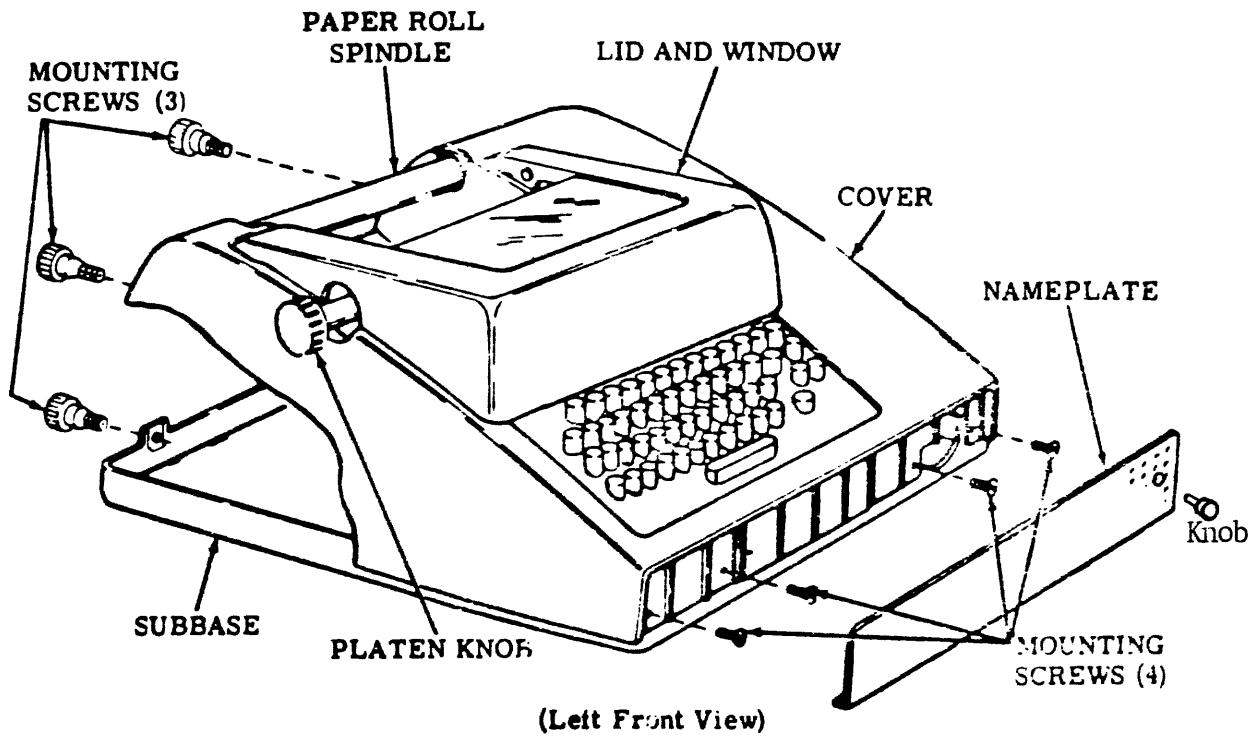

Figure 3-4. Model 33 Cover Mounting
e. Remove the control knob and detach the nameplate (Figure 3-4) by pulling it down and out. Remove the four front and three rear cover mounting screws and two screws to the left of the punch. Then gently lift the cover from the subbase.
- o. Place the typing unit cover on the subbase (Reference Figure 3-4), making sure that all seams are tight and that keyboard pushbuttons, etc., are properly aligned. Insert and tighten the cover mounting screws removed in Step e.